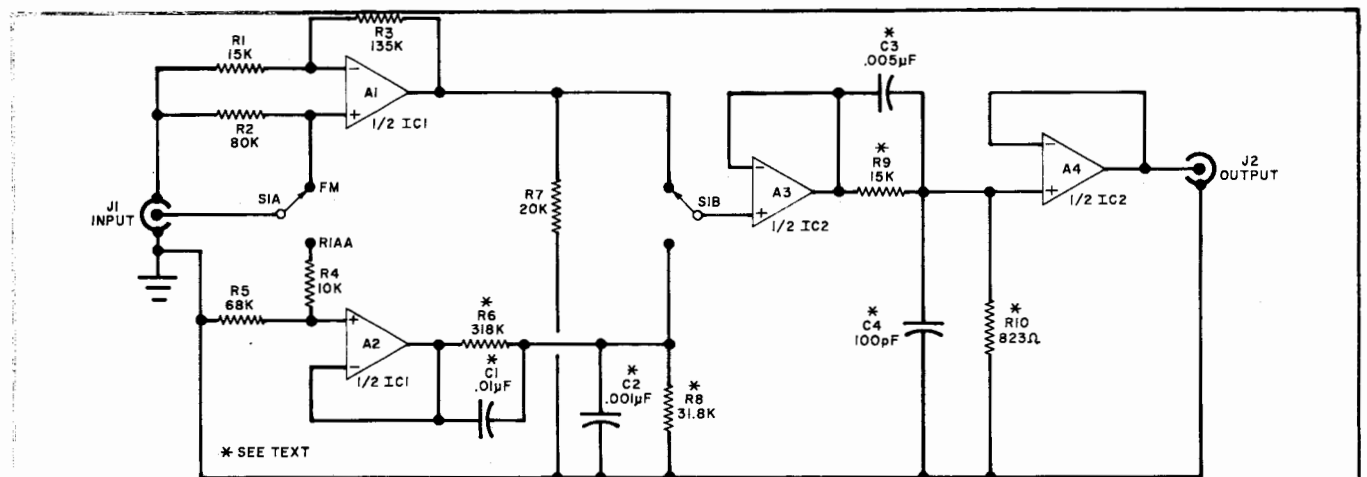

Fig. 1. Passive RC networks provide desired time constants. Op amps yield isolation and/or gain.
**T**HIS circuit, (Fig. 1) makes it easy to perform frequency response tests on phono preamplifiers and FM tuners. Previously, such tests were very difficult because of built-in de-emphasis characteristics. Depending on the tolerance of the parts used, the circuit can be assembled for about \$25, and will adhere fairly closely to the RIAA and FM pre-emphasis characteristics.
**Construction.** For the most part, construction of the pre-emphasis network is not critical. Either pc or perforated board can be used. One area is critical however—parts tolerance of the asterisked components in Fig. 1. To provide the desired time constants, these values should be as close to the published val-